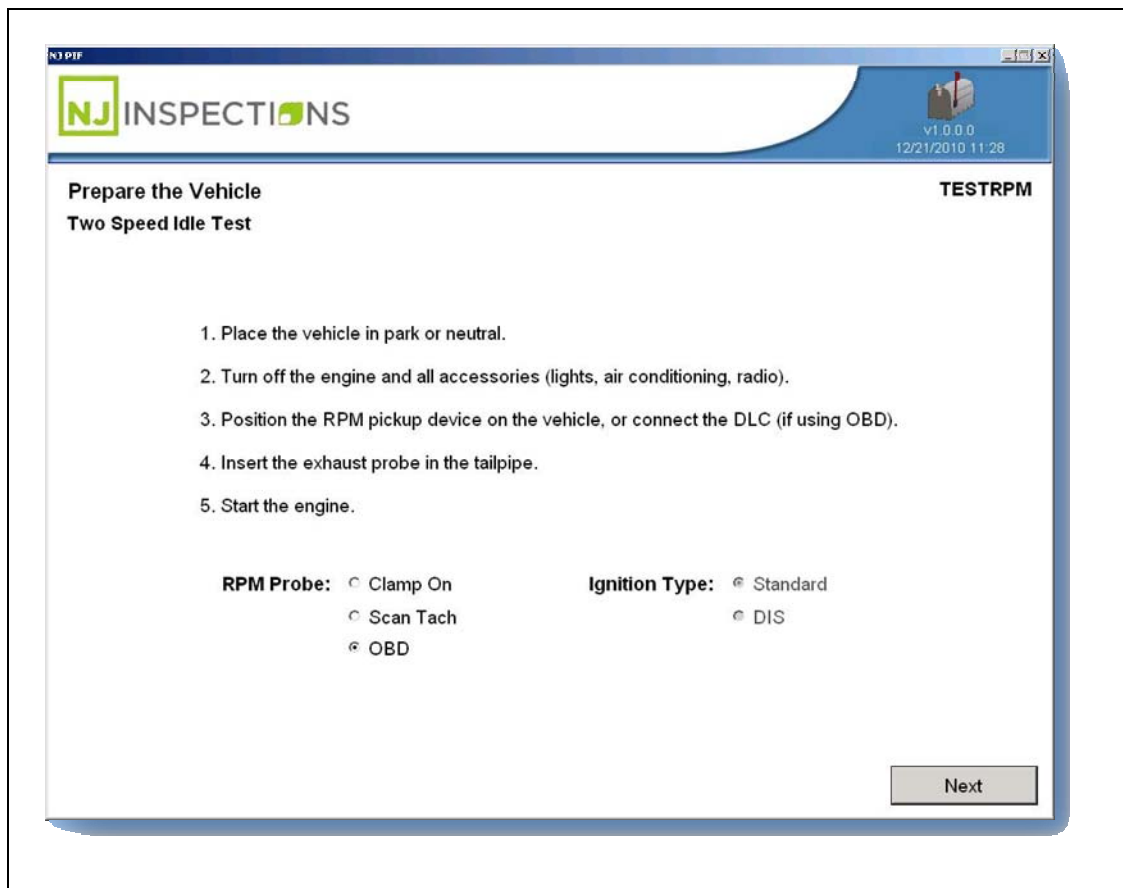

Figure 3-1: “Prepare the Vehicle” OBD RPM
| Figure 3-1:“Prepare the Vehicle” OBD RPM.....             | 3  |
- For 1996 and newer vehicles select “**OBD**” as the RPM Probe. (See Figure 3.1)